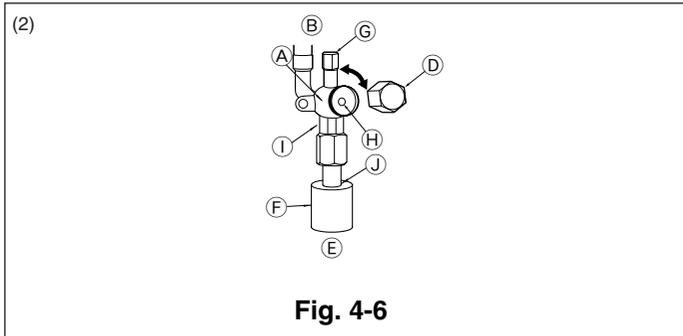

Fig. 4-6
- ① Remove the cap, pull the handle toward you and rotate 1/4 turn in a counterclockwise direction to open.
- ② Make sure that the stop valve is open completely, push in the handle and rotate the cap back to its original position.
- (2) Liquid side of HA36. (Fig. 4-6)
- ① Remove the cap and turn the valve rod counterclockwise as far as it will go with the use of a 4 mm hexagonal wrench. Stop turning when it hits the stopper. (ø6.35, 1/4 inch: Approximately 4.5 revolutions) (ø9.52, 3/8 inch: Approximately 10 revolutions)